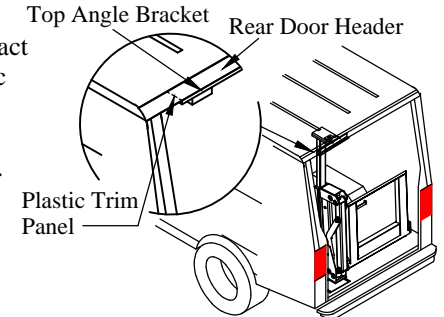

Figure 9: Liftgate in rear opening.
3. **Position** the liftgate in the rear opening such that the top angle bracket comes in contact with the rear door header (Figure 9). The angle bracket butts up against the plastic trim panel on the driver side of the header.